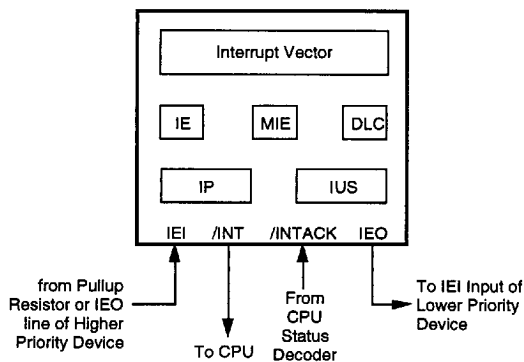

Figure 2-10. Peripheral Interrupt Structure
In addition to the MIE bit that enables or disables all SCC interrupts, each source of interrupt in the SCC has three control/status bits associated with it. They are the Interrupt Enable (IE), Interrupt Pending (IP), and Interrupt-Under-Service(IUS).Figure 2-10 shows the SCC interrupt structure.